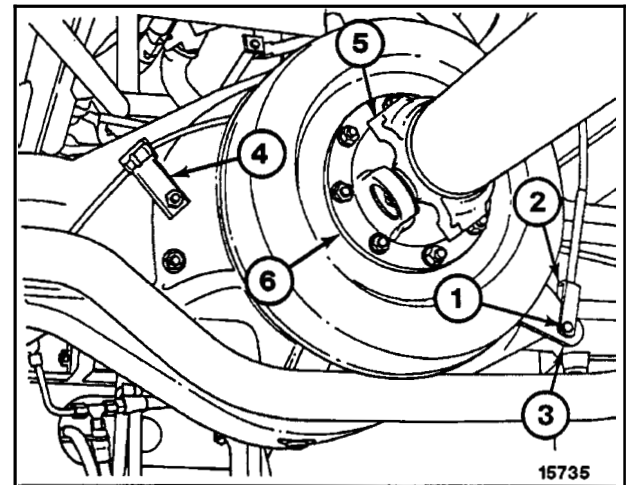

Figure 32
4. Remove two hex nuts, lock washers and U-bolt holding parking brake cable sheath to bracket. Remove cotter pin and pin (1, Figure 32) from parking brake cable clevis (2) and parking brake lever (3).
5. Remove mounting hardware securing brake line hose and tubing bracket (4) to differential housing. Install mounting hardware once bracket is free.
6. Remove nuts and lock washers securing drive shaft (5) to front axle input flange (6).